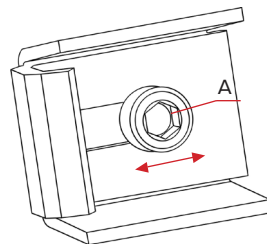

Figure 26.
To adjust the leaf contact, unscrew the screw (A) (do not unscrew it completely) and move the tongue (depending on the required adjustment, it is moved to increase the pressing of the leaf or loosen it). Next, tighten the screw. Check how the door is closed and repeat if necessary (figure 26).